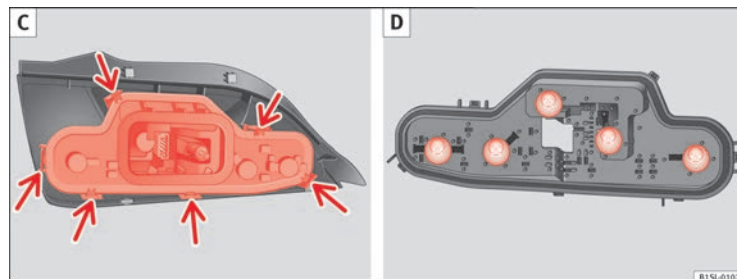

Fig. 154 Tail light unit: C: Remove the bulb holder, D: Remove the bulbs
9. Unlock the bulb holder locking tab (arrow) → Fig. 154 C and remove the bulb holder from the tail light.
10. Replace the faulty bulb by a new identical bulb → Fig. 154 D.
11. Place the lamp holder in the tail light unit. The attachment tabs (arrow) should audibly click into place → Fig. 154 C.